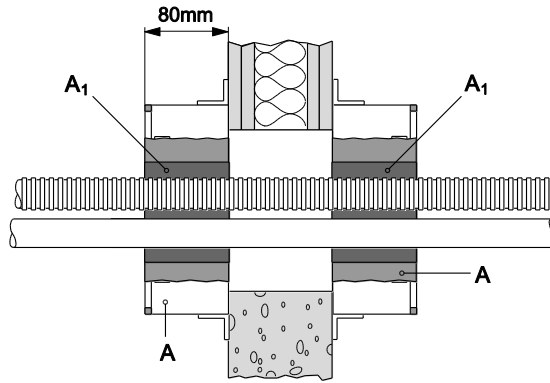

Figure 2: Seal type - Both sides + foam inlay
The penetration seal depth is approximately 260/310mm comprised by a wall/floor of at least 100/150 mm and two times the thickness of the Hilti Cable Collar (A) where all visible PU inlay (till the corner profile of the metal housing) is replaced by another foam (type: Hilti Firestop Foam CFS-F FX . (Figure 2)